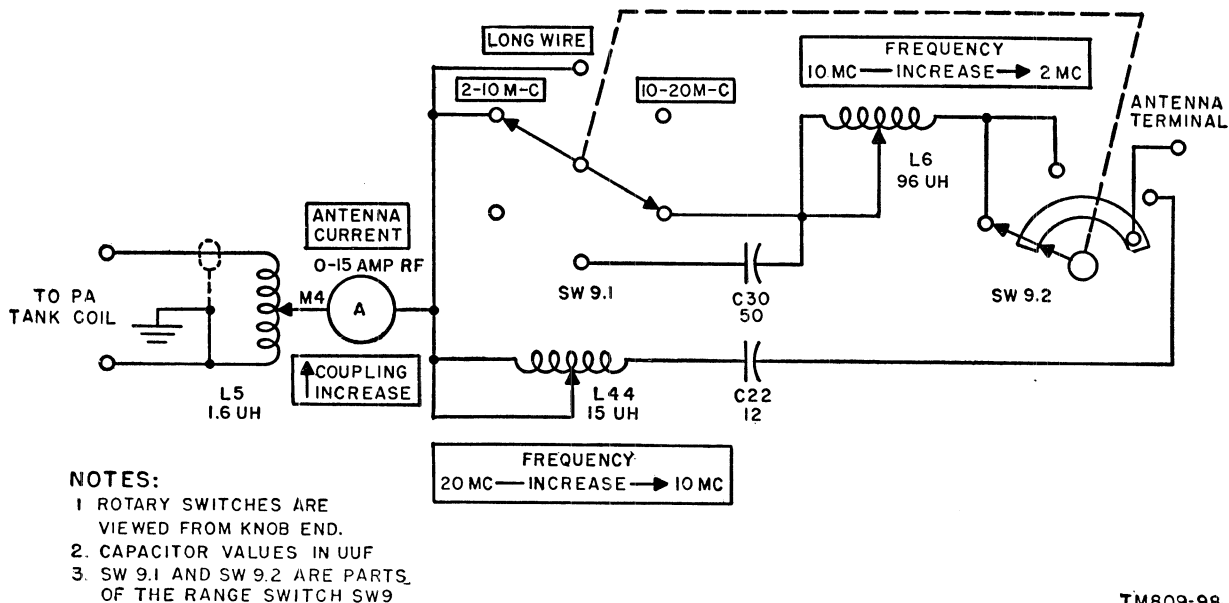

Figure 42. Antenna tuning unit BC-939-B, schematic diagram.
(fig. 42)
a. Figure 42 shows the main schematic diagram of the tuning unit. (See fig. 86 also.) The following subparagraphs describe each of the three range switch positions as individual schematic diagrams in order to describe the tuning unit in greater detail.